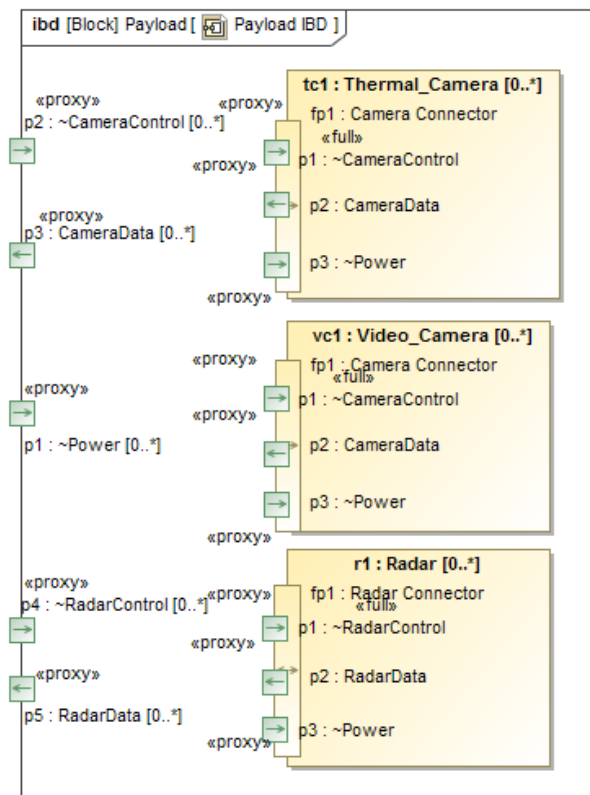

Figure 6 Payload IBD, third stage
- In the diagram, click **fp1: Camera Connector** and select the Display All Ports icon on the floating toolbar. Accept all proxy ports for display. Repeat the process for the other two full ports. The diagram should appear as in Figure 6 if the proxy port labels are dragged to the right.